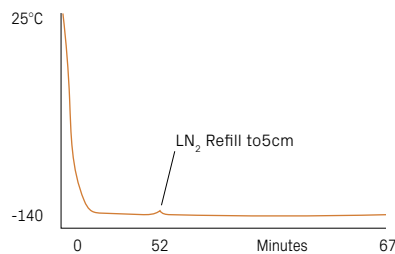

Figure 2
After approximately 15 minutes, a room temperature rack module resting on a Thermoconductive Tray SLP or LP will equilibrate to approximately -140°C when placed in LN2. Samples stay organized and freeze upright in a very reproducible manner plus the risk of contamination is reduced. (Fig. 2)
**Figure 2.** Graph showing the Titer (TCID50/ mL) of 2 different virus (influenza A and VEE) using the 2 freezing methodologies compared to the original titer value.
Virus titers recovered from freezing with Azenta’s Thermoconductive Tube Rack module on dry ice are equivalent to conventional freezing in ETOH/dry ice, as shown in Figure 2. The rack method provides reproducible, ethanol-free freezing of viral samples while minimizing risk of contamination and keeping cryogenic vials organized and dry. Samples can also be safely transferred to storage areas while still seated in rack module.